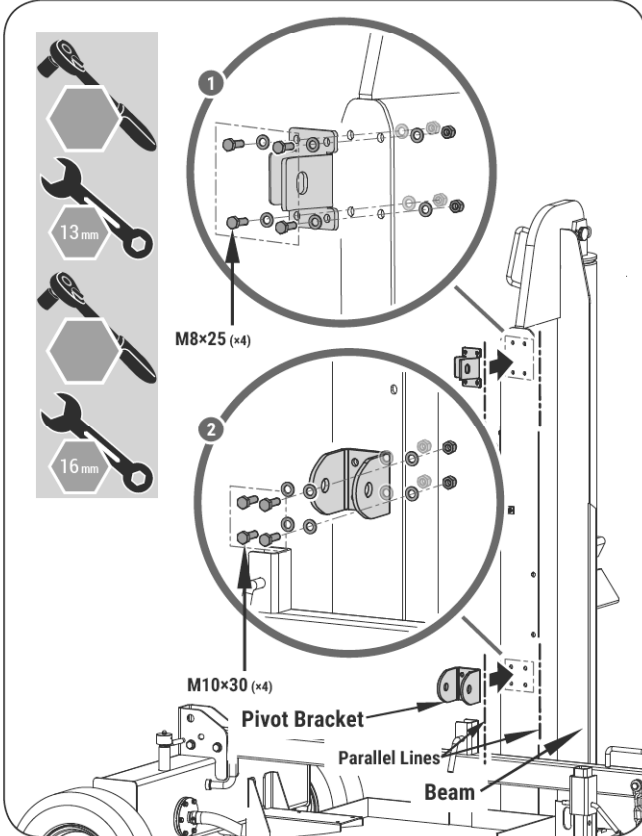

Figure 7
1. Install the beam lock bracket to the beam by using the M8x25 bolts, spring washers, and flat washers. (See **Figure 7, illustration 1.**)
2. Align the holes in the pivot bracket with the holes on the beam and insert and tighten bolts, spring washers, and flat washers. (See **Figure 7, illustration 2.**)